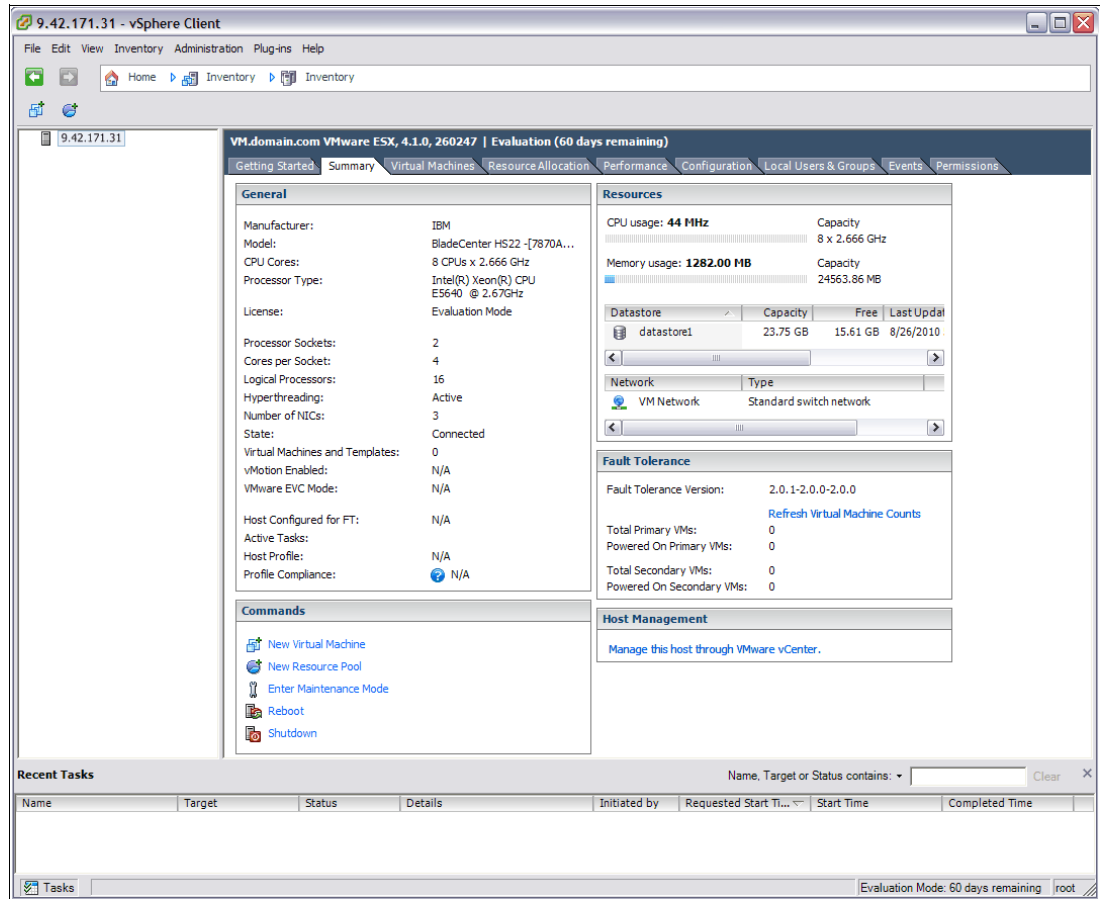

Figure 22-50 ESX vSphere Client - Summary panel
14. The summary window (Figure 22-50 on page 687) for the newly created VMware ESX Server opens. Your VMware ESX Server installation is now completed. A tutorial page will come up on the first tab.